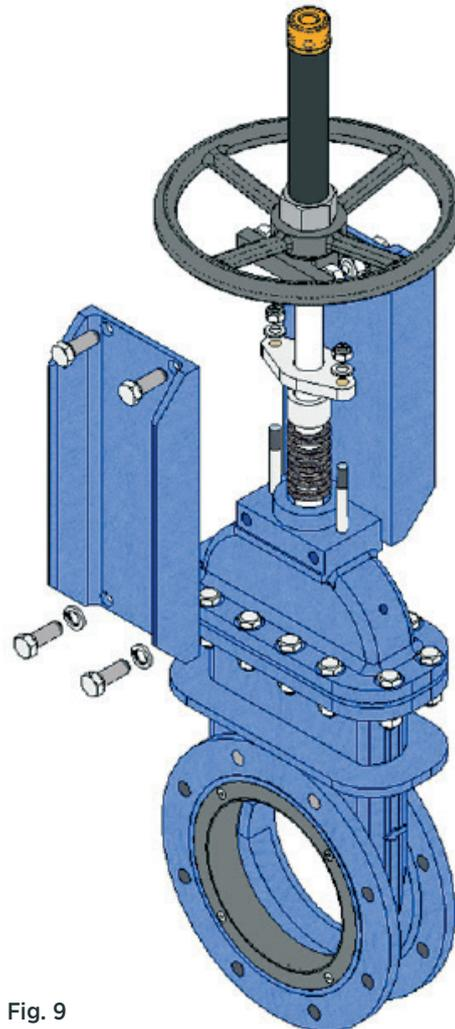

Fig. 9
3. Although not essential, for more comfort and more space to work it is advisable to release a support plate (8) as shown in fig. 9.
4. Release the nuts and lift the packing flange (4) and the packing bushing (5) over the spindle.
5. Remove the old packing (6) using a pointed tool, taking care not to damage the surface of the spindle (7).
6. Carefully clean the packing, making sure there are no residues anywhere so the new packing strips (6) fit correctly.
7. Insert the new packing gland (6). During this operation it is very important for both ends of each ring to be perfectly joined. Below we show the packing dimensions (Table 5).
8. Place the packing gland bushing (5) and packing gland flange (4) in their original position, making sure not to touch the spindle (7), carefully tighten all the screws crosswise and make sure the same distance is left between the packing flange (4) and the spindle (7) on both sides, then mount the support plate (8).